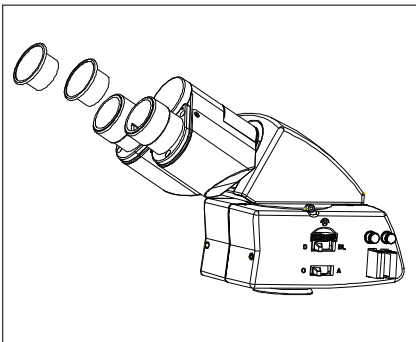

Fig.16
1. Remove the protective caps from the observation tube.(Fig. 16)